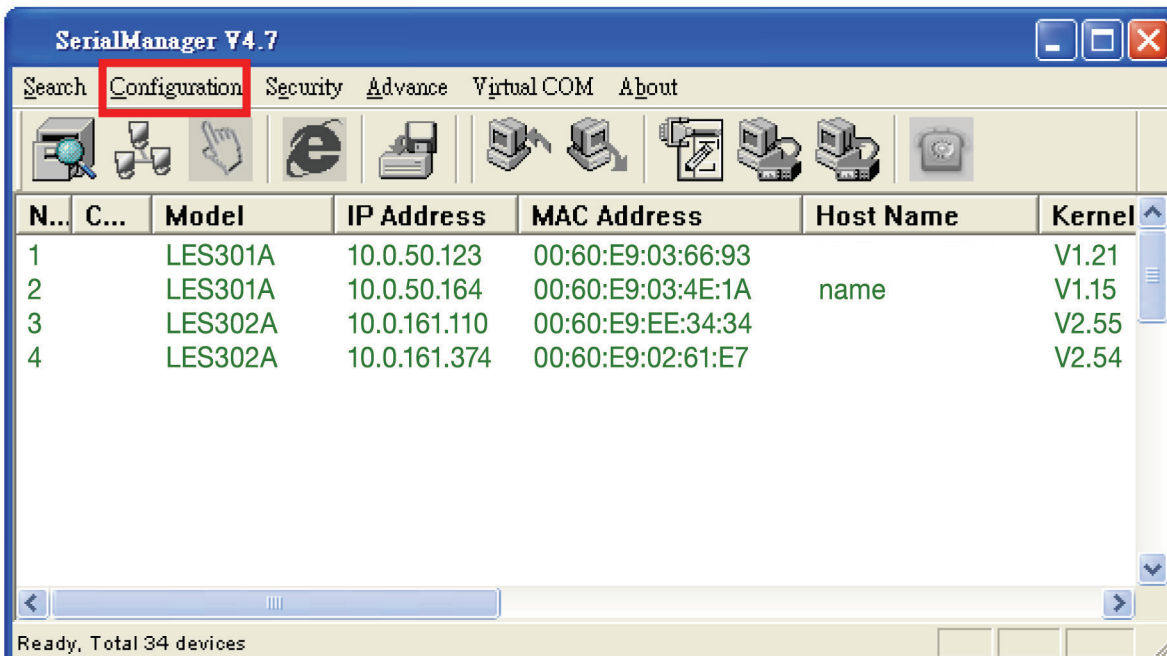
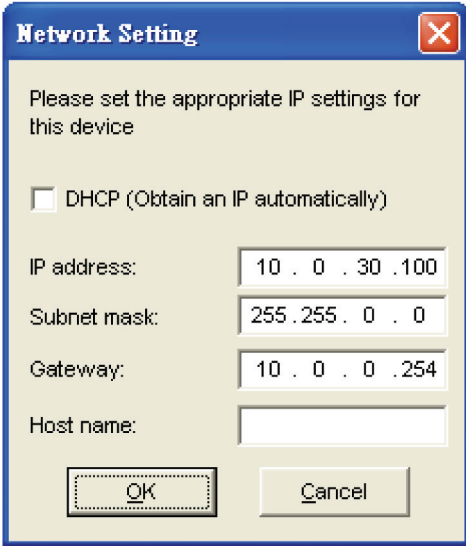

Figure 4-1. Configure using SerialManager.
Figure 4-2. Static IP setup dialog window.
Use SerialManager that's included on the product CD to configure the LES301A's network parameters. Click on the "Configuration" button (see Figure 4-1) then give it static IP information (see Figure 4-2.)
1. Execute SerialManager (Figure 4-1).
3. Click on the "Config" button, and the dialog window will pop up (Figure 4-2).